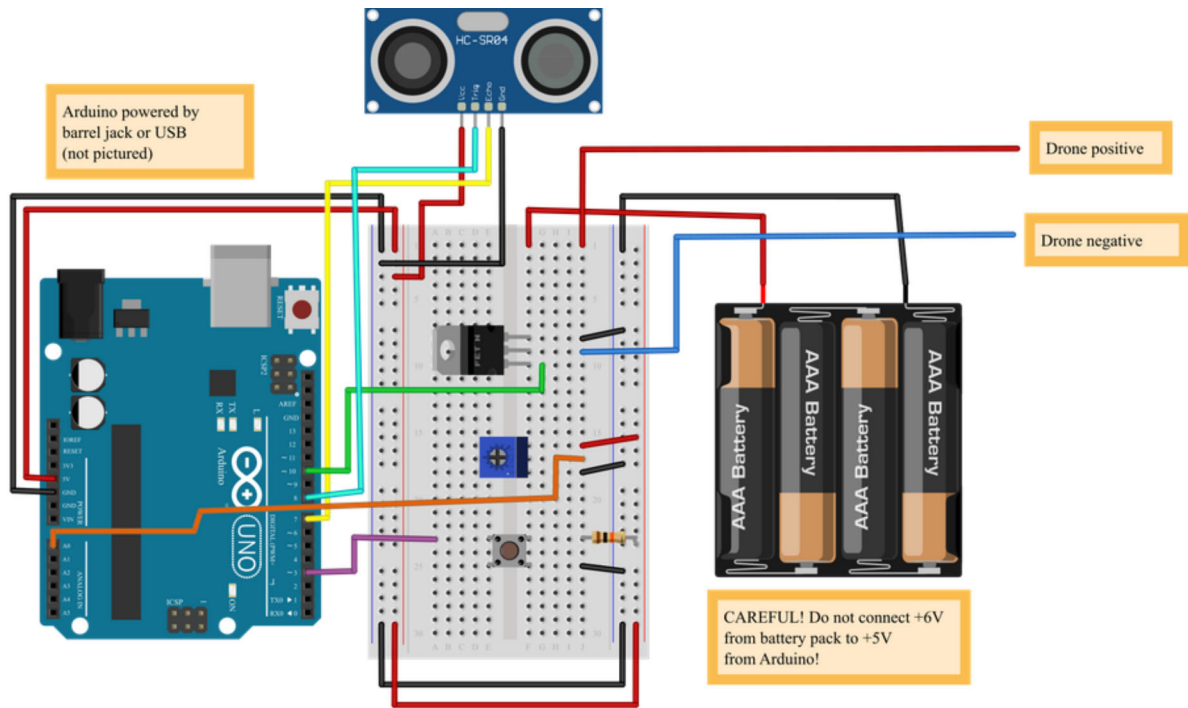
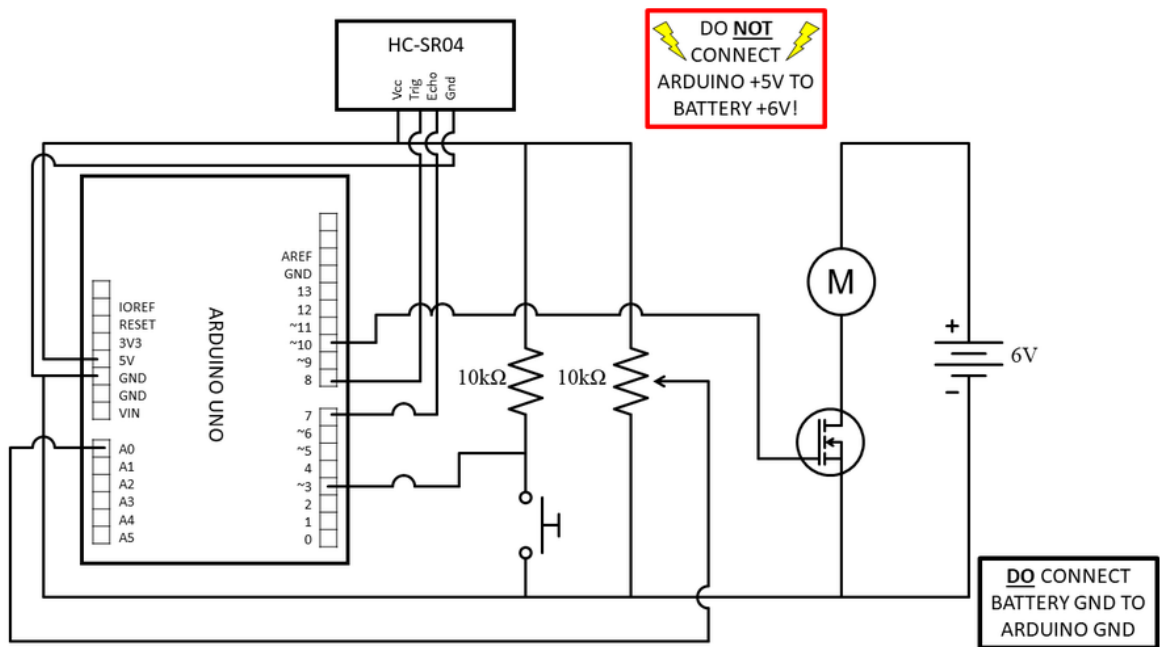

Figure 5. Breadboard diagram for Arduino drone control circuit.
Figure 6. Circuit schematic for Arduino drone control circuit.
1. Orient the breadboard so it is facing you with the writing upright. Then connect all of the following, as shown in Figure 5 (click for a [bigger version of the diagram](https://www.sciencebuddies.org/cdn/Files/17050/10/drone-arduino-altitude-breadboard-circuit-1.png) (<https://www.sciencebuddies.org/cdn/Files/17050/10/drone-arduino-altitude-breadboard-circuit-1.png>)). If you know how to read a [circuit schematic](https://www.sciencebuddies.org/cdn/Files/17051/12/arduino-drone-control-circuit-diagram-1.png) (<https://www.sciencebuddies.org/cdn/Files/17051/12/arduino-drone-control-circuit-diagram-1.png>), you can use that instead (Figure 6).